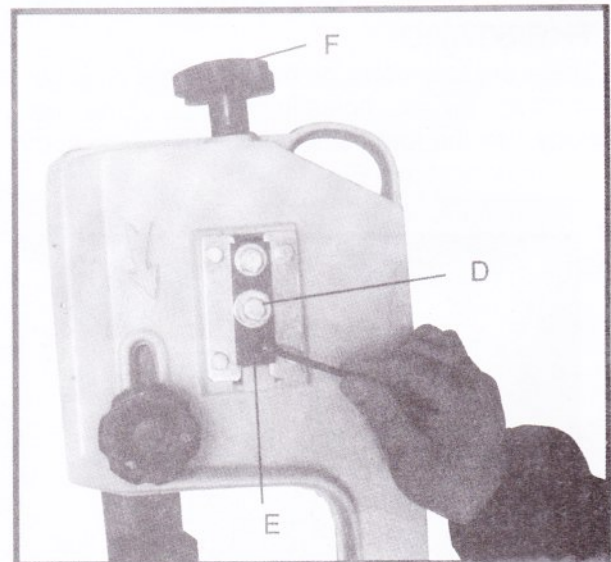

Fig. 7
3. If an adjustment is necessary the blade guide bearings and blade support bearing (E) Fig.7 (two of which are shown) should be clear of the blade.
4. Loosen screw (D) Fig.7.
5. With the metal band saw running, turn adjusting screw (E) until the blade is tracking properly making certain blade tension is maintained by turning bsade tension knob(F) The blade is tracking properly when the back side of the saw blade just touches the flange on the wheel.
6. Tighten screw (D) Fig. 7, when adjustment is complete.
7. **IMPORTANT: IT IS POSSIBLE WHEN MAKING THIS ADJUSTMENT TO OVERTIGHTEN THE ADJUSTING SCREW (E) FIG. 7, AND CAUSE THE BLADE TO BE MIS-ALIGNED.** If this happens, loosen the adjusting screw (E) several turns but do not remove it from its threaded hole and loosen screw (D). Turn screw (D) clock-wise until it stops but do not tighten. Then turn the adjusting screw(E) clockwise until it bottoms. Turn on the machine and turn adjusting screw (E) clockwise a small amount at a time until the blade is tracking correctly and tighten screw (D)Fig. 7.